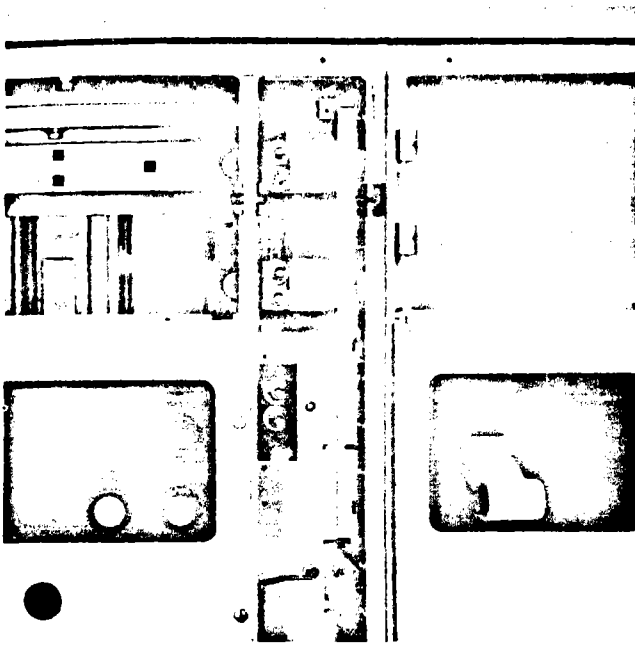

Figure 2
(5) If rear access is available, "U" clamps should also be used to clamp the rear upright channels together. In front only structures, this will require removal of the adjacent back sheets. In a back to back mounted structure, remove the vertical wireway doors and one or more drawout units as above.
(6) Secure the sections to the floor sills or mounting bolts as provided for the installation.
(7) Bolt the horizontal bus links to the bus in the left hand structure, torquing all bus splice bolts to 23 foot Lbs. See Figure 2.
(8) Replace all bus barriers and doors.